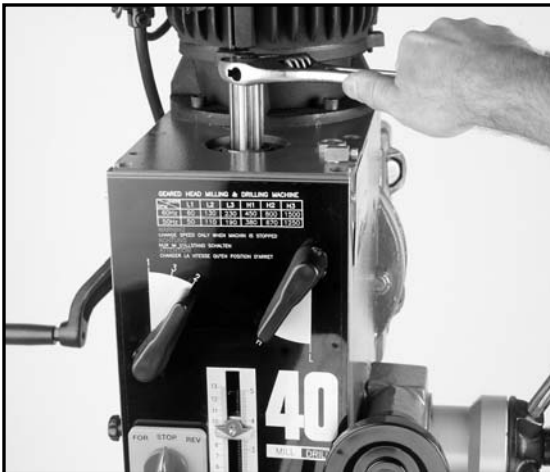

Figure 4
3. Turn the hex head at the top of the drawbar clockwise until the threads at the bottom of the drawbar mesh with the female threads in the top of the collet or arbor. See Figure 4.